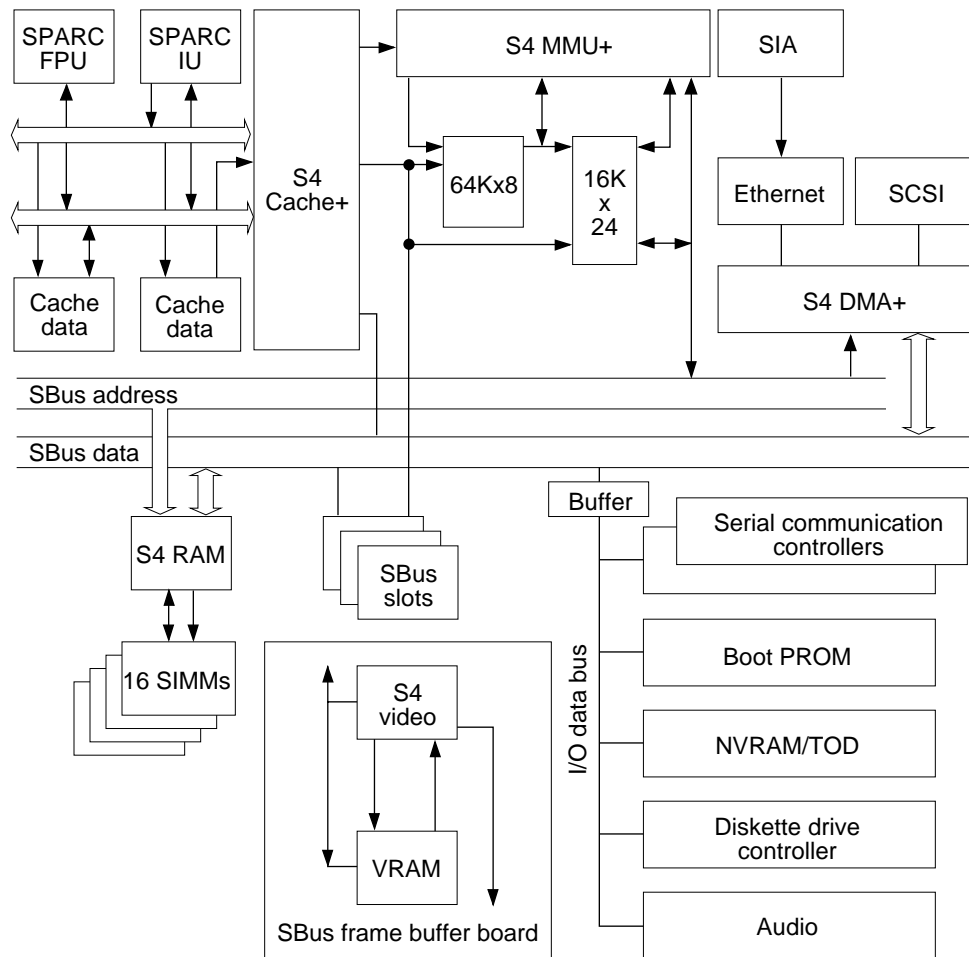

Figure 1-4 Block Level Diagram of the Main Logic Board
- Figure 1-4 presents the block-level diagram of the main logic board. The balance of the chapter describes the system's components.
The diskette drive is controlled by the diskette drive controller chip (see Figure 1-4).
The serial ports can be reconfigured by changing jumpers on the main logic board to run at RS-232 for users in the Federal Republic of Germany. Both ports must be configured for either RS-423 or RS-232 mode. The serial communications controller chips (see Figure 1-4) help to implement the serial port A and B interface. Refer to Chapter 4 “Main Logic Board” for information on how to set the serial port jumpers.
A keyboard port, on the back of the main logic board to the left of the Serial B port (see Figure 1-3), controls the keyboard and mouse. The serial communications controller chips (see Figure 1-4) help to implement the keyboard and mouse interface.
The internal diskette drive is connected to the I/O data bus by the diskette drive controller chip (see Figure 1-4).
The system speaker is connected to the I/O data bus by the audio chip (see Figure 1-4). There is one audio port on the back panel. You can plug the following devices into the audio input/output port: